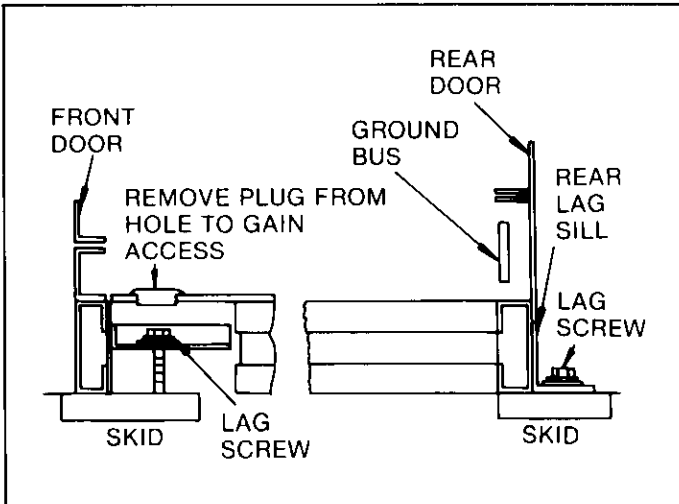

Fig. 4-6. View showing method of attaching equipment to shipping skids
2. REMOVE THE SHIPPING SKIDS—The equipment is fastened to the shipping skids with $\frac{3}{8}$ -3 lag screws through the equipment anchoring holes. See Fig. 4-6.